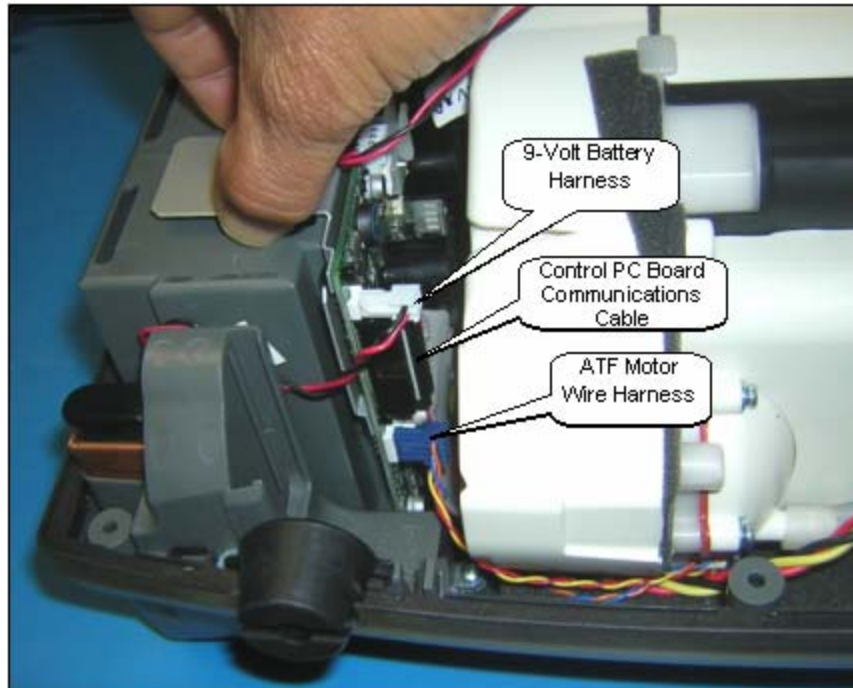

Figure 46: ATF Motor, 9-Volt Battery, and Control PC Board Communications Wire Harness Removal.
6. Pull the Power Manager PCB 1" out of the unit case. Gently push the Compressor Box away from the Power Manager PCB by 1/8". Disconnect the 2 wire harnesses and the ribbon cable shown in Figure 46. Remove the Power Manager PC Board.